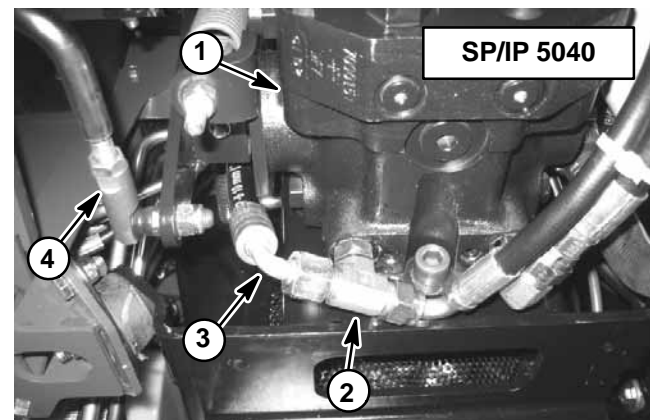

Figure 18
- B. For Sand Pro 5040 and Infield Pro 5040 machines, install a tee connector with pressure gauge in series between the tee fitting on the lower right side of the hydrostat and the hydraulic hose from the hydrostat (Fig. 18).